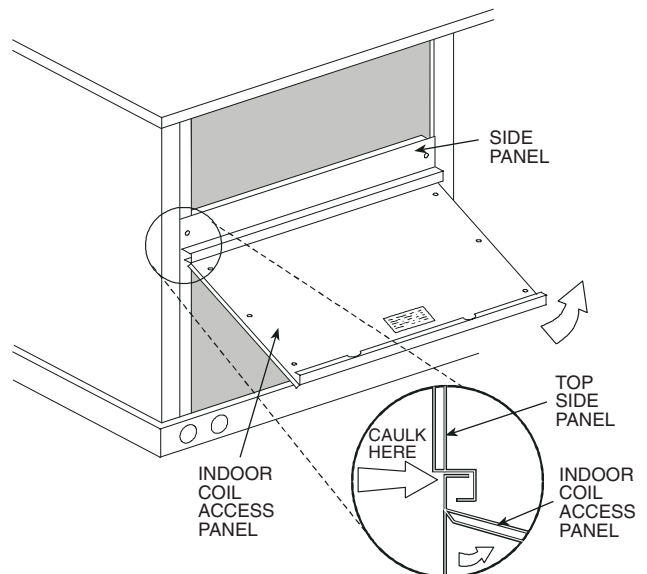

Fig. 23 — Indoor Coil Access Panel Relocation
3. The indoor coil access panel will be used as the top of the hood. Remove the screws along the sides and bottom of the indoor coil access panel. See Fig. 23.
- Caulk the ends of the joint between the unit top panel and the hood top. See Fig. 23.